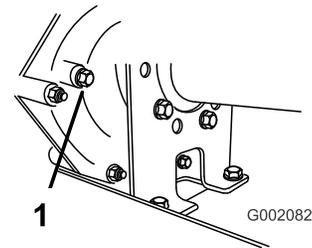

Figure 59
2. Remove the bolt from the level-indicating hole (Figure 59).